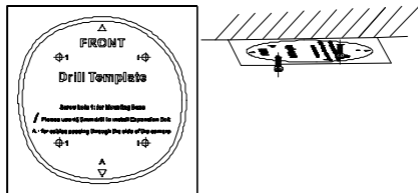

Figure 2-38 Attach the Drill Template
3. Insert two PM4×10 screws into the ceiling, as shown in Figure 2-38.